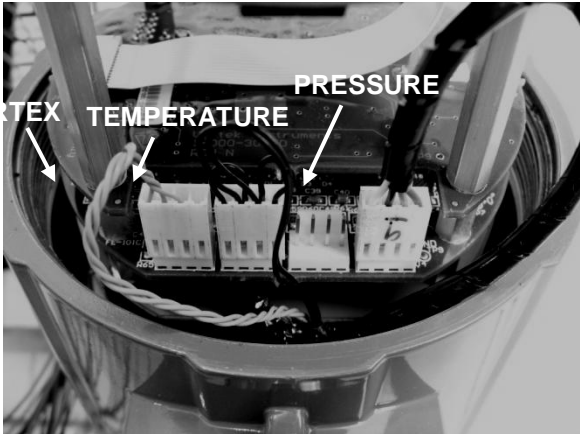

Figure 5-1. Electronics Stack Sensor Connections
Using ESD precautions and hazardous area precautions, remove the electronics enclosure window cover. Disconnect the vortex sensor from the electronics stack or remote feed through board. Refer to Figure 5-1 or 5-2. Measure the resistance from each outside pin to the meter ground - each should be open. Measure the resistance from the center pin to the meter ground – this should be grounded to the meter.
Using ESD precautions and hazardous area precautions, remove the electronics enclosure window cover. Disconnect the temperature sensor from the electronics stack or the remote feed through board. Refer to Figure 5-1 or 5-2. Measure the resistance across the outside pins of the temperature sensor connector. It should read approximately 1080 ohms at room temperature (higher resistance at higher temperatures).
3. Locate the sensor harnesses which come up from the neck of the flow meter and attaches to the circuit boards. Make note of the location of each sensor connection. Refer to figures 5-1 and 5-2. The vortex sensor connection is on the left, the temperature sensor connection (if present) is second from the left, and the pressure sensor connection (if present) is the right most connector. Use small pliers to pull the sensor wiring connectors off of the circuit boards.